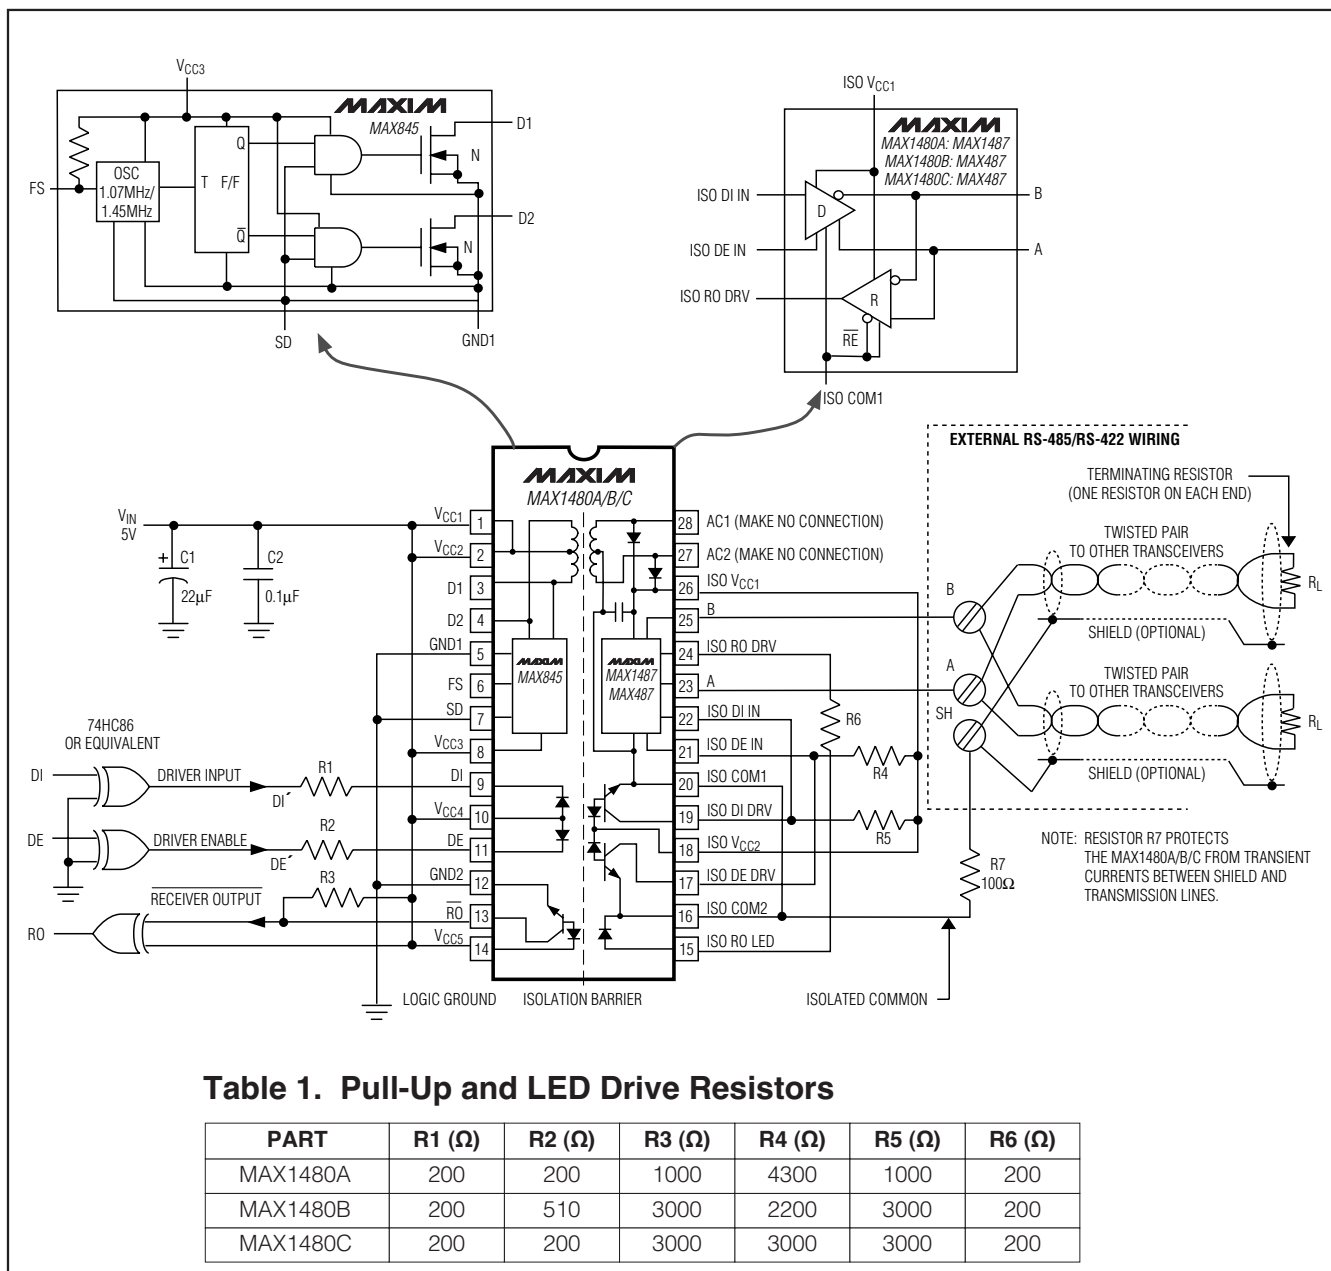
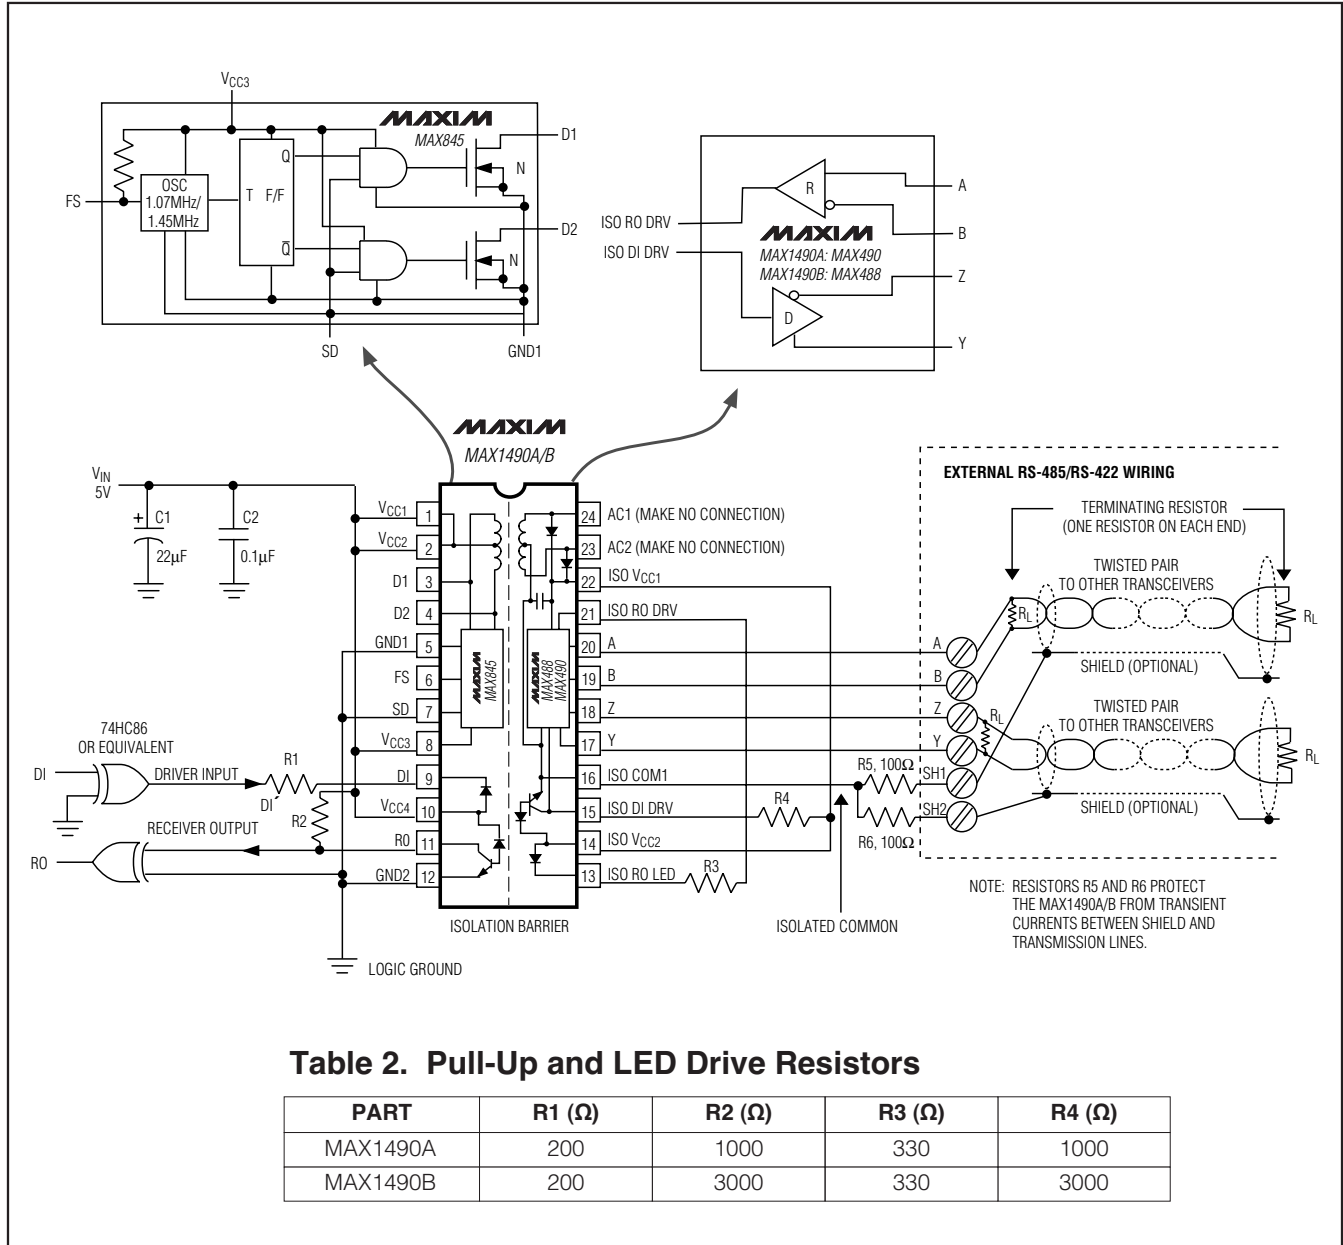

Figure 1. MAX1480A/MAX1480B/MAX1480C Detailed Block Diagram and Typical Application Circuit
Figure 2. MAX1490A/MAX1490B Detailed Block Diagram and Typical Application Circuit
Note: For DE⁺ and DI⁺ pin descriptions, see *Detailed Block Diagram and Typical Application Circuit* (Figure 1 for MAX1480A/B/C, Figure 2 for MAX1490A/B).
The MAX1480A/MAX1480B/MAX1480C/MAX1490A/MAX1490B are complete, electrically isolated, RS-485/RS-422 data-communications interface solutions. Transceivers, optocouplers, a power driver, and a transformer in one standard 28-pin DIP package (24-pin for the MAX1490A/B) provide a complete interface. Signals and power are internally transported across the isolation barrier (Figures 1, 2). Power is transferred from the logic side (nonisolated side) to the isolated side of the barrier through a center-tapped transformer. Signals cross the barrier through high-speed optocouplers. A single +5V supply on the logic side powers both sides of the interface. The MAX1480A/B/C offer half-duplex communications while the MAX1490A/B feature full-duplex communication. The functional input/output relationships are shown in Tables 3–6.
* For DE' and DI' pin descriptions, see Detailed Block Diagram and Typical Application Circuit (Figure 1 for MAX1480A/B/C, Figure 2 for MAX1490A/B).
The MAX1480A/MAX1480B/MAX1480C/MAX1490A/MAX1490B are specified and characterized using the resistor values shown in Table 1 of Figure 1 and Table 2 of Figure 2. Altering the recommended values can degrade performance.
The isolated common may be completely floating with respect to the logic ground and the effective network ground. The receiver input resistors will cause the isolated common voltage to go to the mean voltage of the receiver inputs. If using shielded cable, connect the isolated common to the shield through a 100Ω resistor. In the case of the MAX1490, each shield should have its own 100Ω resistor (Figures 1, 2, 13, and 14).